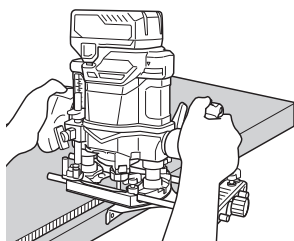

Fig. 23
- (1) Insert a guide bar into each hole in the bar holder, then lightly tighten the 2 wing bolts (A) on top of the bar holder.
- (2) Insert a guide bar into each hole in the base, then firmly tighten the wing bolts (A) (standard accessories).
- (3) Make minute adjustments of the dimensions between the bit and the guide surface with the feed screw, then firmly tighten the 2 wing bolts (A) on top of the bar holder and the wing bolt (B) that secures the straight guide.
- (4) As shown in Fig. 23, securely attach the bottom of the base to processed surface of the materials. Feed the router while keeping the guide plane on the surface of the materials.